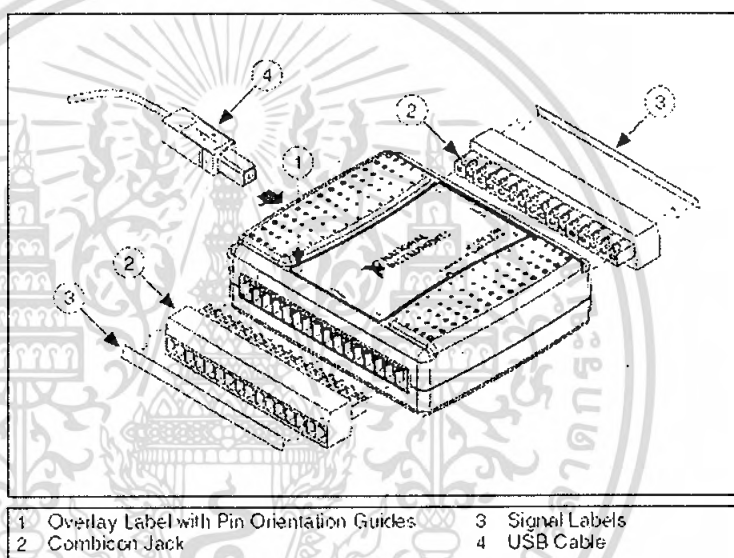

Figure 4. Signal Label Application Diagram
2. Refer to Table 3 and Figure 4 for signal label orientation and affix the provided signal labels to the screw terminal blocks. Until the signal labels are applied, you can insert the screw terminal blocks into either of the combicon jacks.